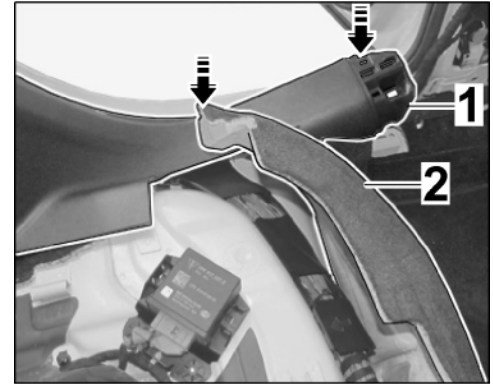

Figure 29
- 5.1 Re-fit carpet in front of the rear seat (⇒ *Figure 29*).
- 5.2 Clip rear (inner) door sill trim at the left in the front area into the body (⇒ *Figure 29*).